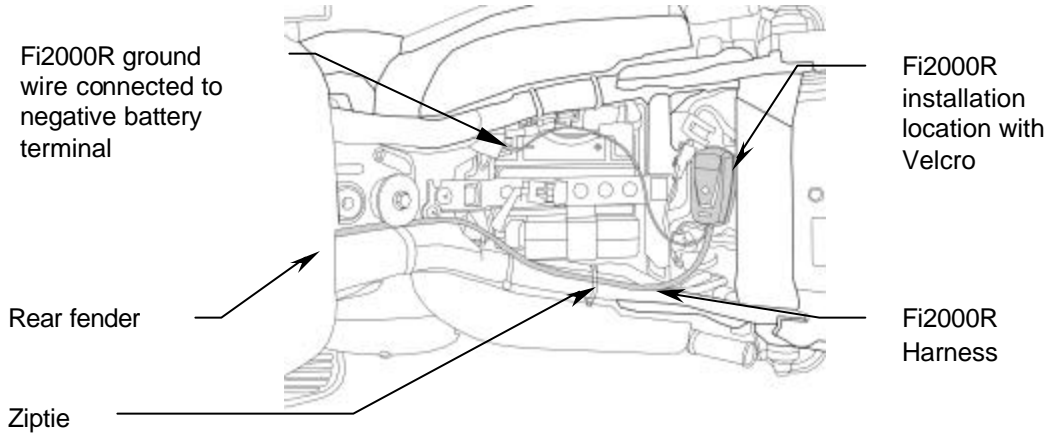

FIGURE 2
3. Run the harness down the left side of the frame as shown in Figure 2. Ziptie it to the existing harness to secure it in place.
4. Using the supplied Velcro pads, place the module in the position shown, in Figure 2. Attach the black ground wire from the Fi2000R to the negative post of the battery.
6. Remove the door from the Fi2000R module to expose the LED's. Verify the wire connections by, (1), turning the ignition on while watching the 3 LED's. They will all light up for a few seconds, and then go off. This is correct. If there are no lights visible, make sure the side stand is up, bike is in neutral, clutch is in and handlebar engine switch is set to run. If there are still no lights visible, recheck that all connectors are fully engaged and the ground wire is connected correctly. (2), after achieving a steady light from all three LED's, start the motorcycle; the green light should now be the only LED on. If all three LED's are still on after start up, verify the injector connectors are correctly attached. Reattach the access door when finished and install remaining components.